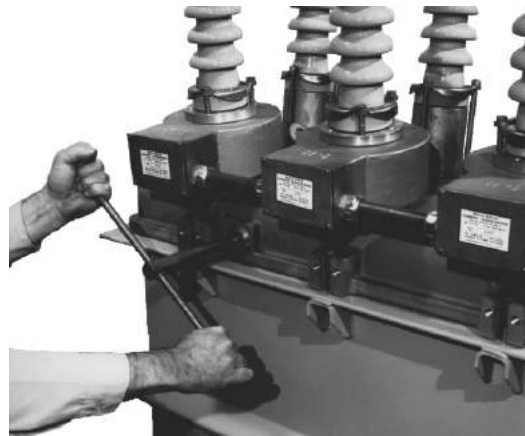

Figure 47. Using a manual closing tool to operate the recloser
2. Insert the tee-handled tool (available as an accessory) into the port, engaging the pin on the closing shaft (Figure 47).